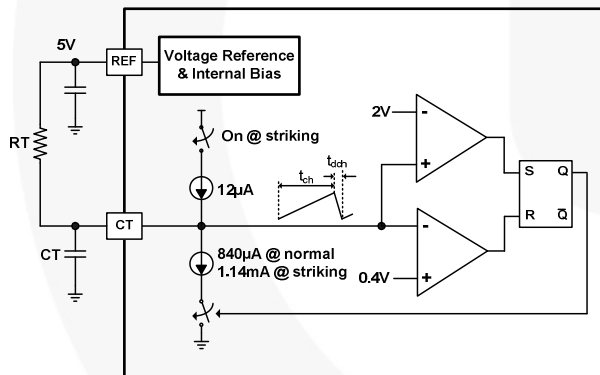

Figure 39. Main Oscillator Circuit
Main Oscillator: In normal mode, the external timing capacitor (CT) is charged by the current flowing from the reference voltage source, which is formed by the timing resistor (RT) and the timing capacitor (CT). The sawtooth waveform charges up to 2V. Once CT voltage reaches 2V, the CT starts discharging down to 0.4V. Next, the CT starts charging again and a new switching cycle begins, as shown in Figure 39. The main frequency is programmed by adjusting the RT and CT value. The main frequency is calculated as: